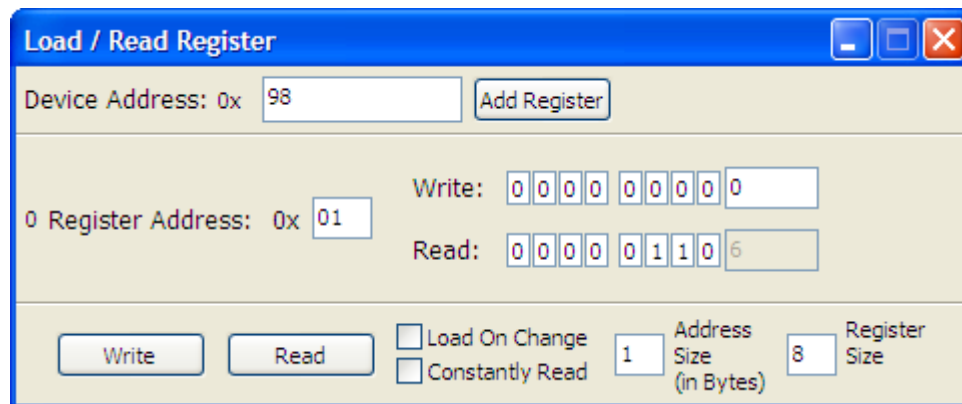

Figure 6 - register control window
2. Enter the Device Address in HEX (see Figure 6)